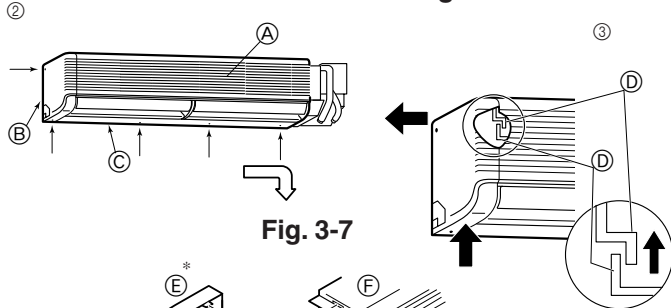

Fig. 3-7
- Ⓓ Wall-fixing bracket ①
- ② Remove the five screws indicated by the arrows in the diagram. (Fig. 3-7)
- ③ Remove the left side panel, then the lower panel.